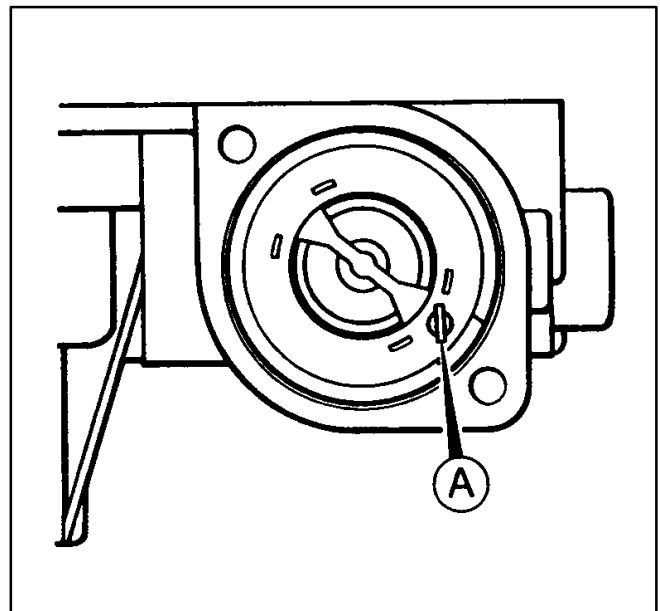

FIGURE 8-34. THERMOSTAT
1. Install the thermostat with a new gasket, making sure the jiggle pin (Figure 8-34, Item A) moves freely and is located as shown towards the recess.